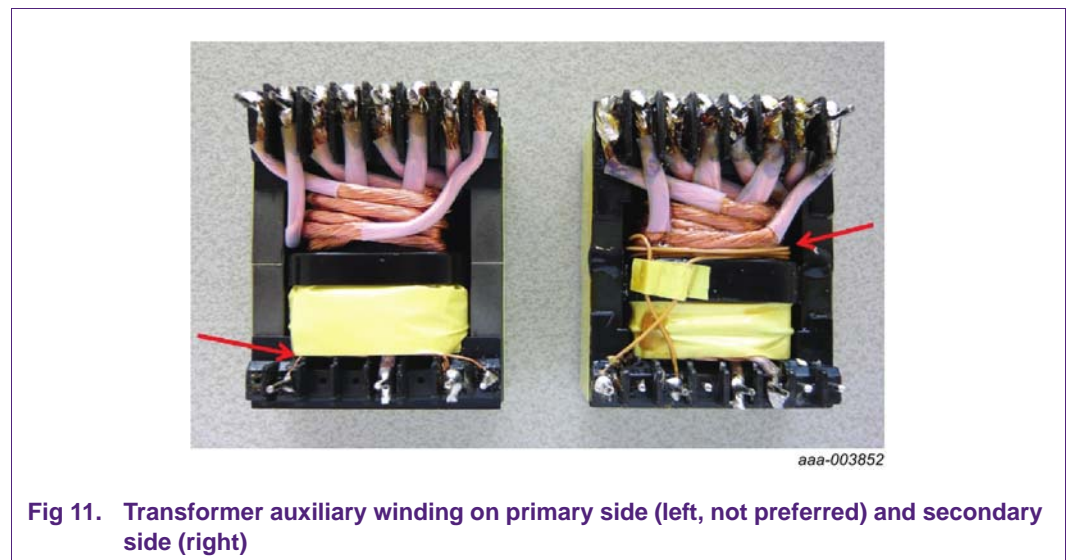
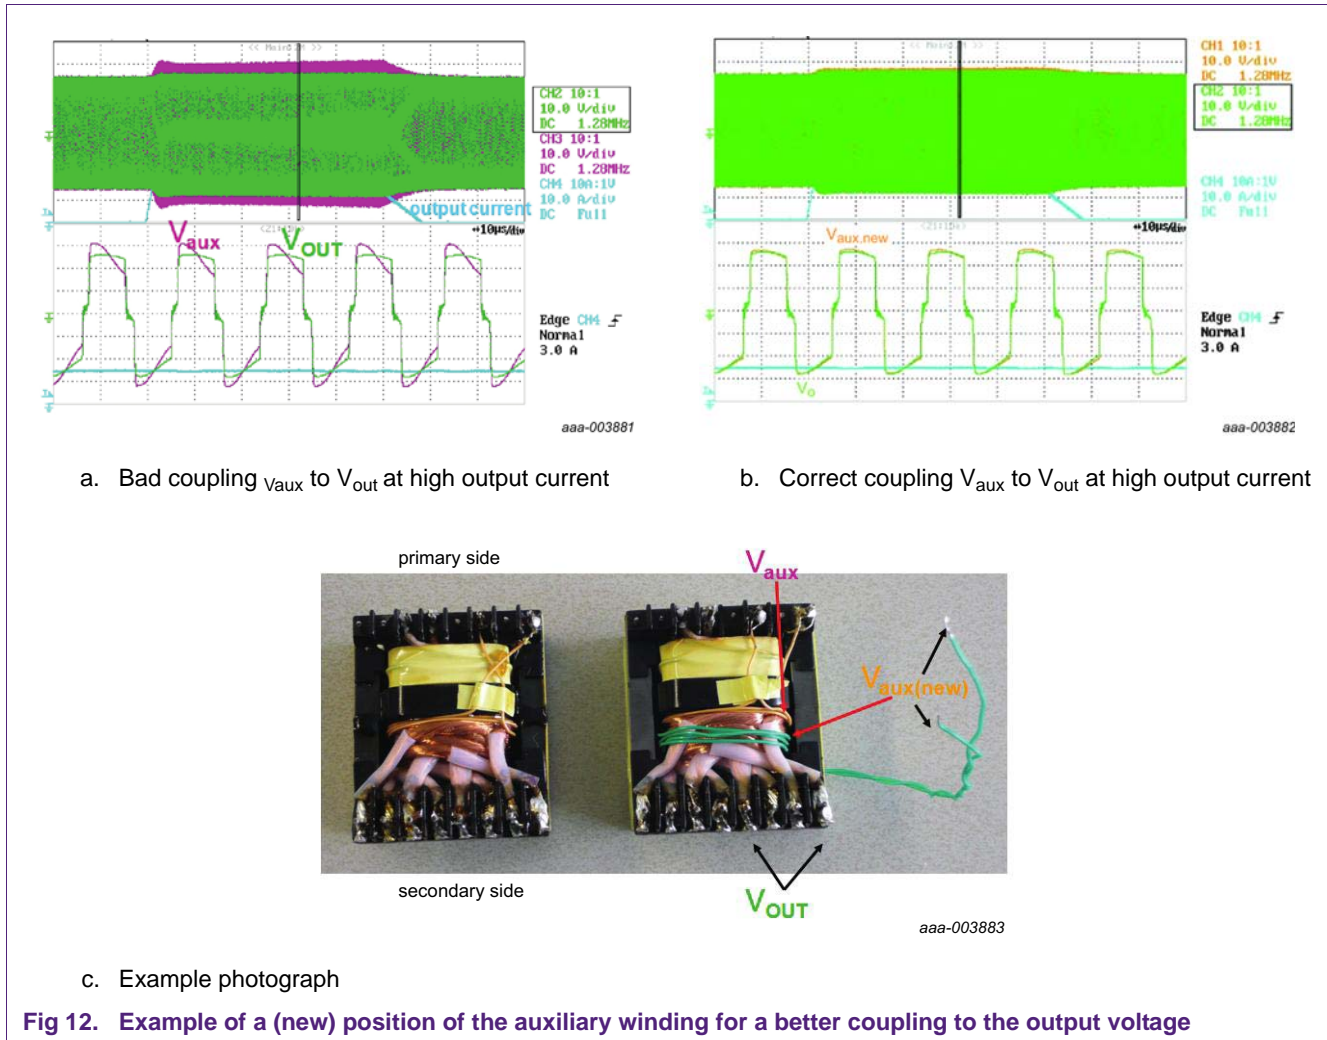

Fig 11. Transformer auxiliary winding on primary side (left, not preferred) and secondary side (right)
Fig 12. Example of a (new) position of the auxiliary winding for a better coupling to the output voltage
- To use the auxiliary winding voltage for the IC supply and for HBC output voltage measurement (using SNSOUT), the auxiliary winding supply must be an accurate representation of V_O . To ensure a good coupling, place the transformer auxiliary winding physically on the secondary output side. When the transformer contains separate sections for primary and secondary winding (see Figure 11 and Figure 12), this aspect is more critical than on transformers that have all windings in one section.
V_{SNSOUT} and/or V_{SUPIC} can contain unwanted primary voltage because of less optimal position of the auxiliary winding. When the transformer contains separate sections for primary and secondary winding (see type in Figure 11 and Figure 12), this aspect is more critical than on transformers that have all windings in one section. This deviation can seriously endanger the feasibility of the SNSOUT sensing function. It can also have a serious effect on the SUPIC voltage.
To avoid a primary voltage component on the auxiliary voltage, the coupling of the auxiliary winding with the primary winding must be as small as possible. Place the auxiliary winding on the secondary windings and physically as remote as possible from the primary winding. Figure 12 shows the differences in results using comparison of the secondary side position.